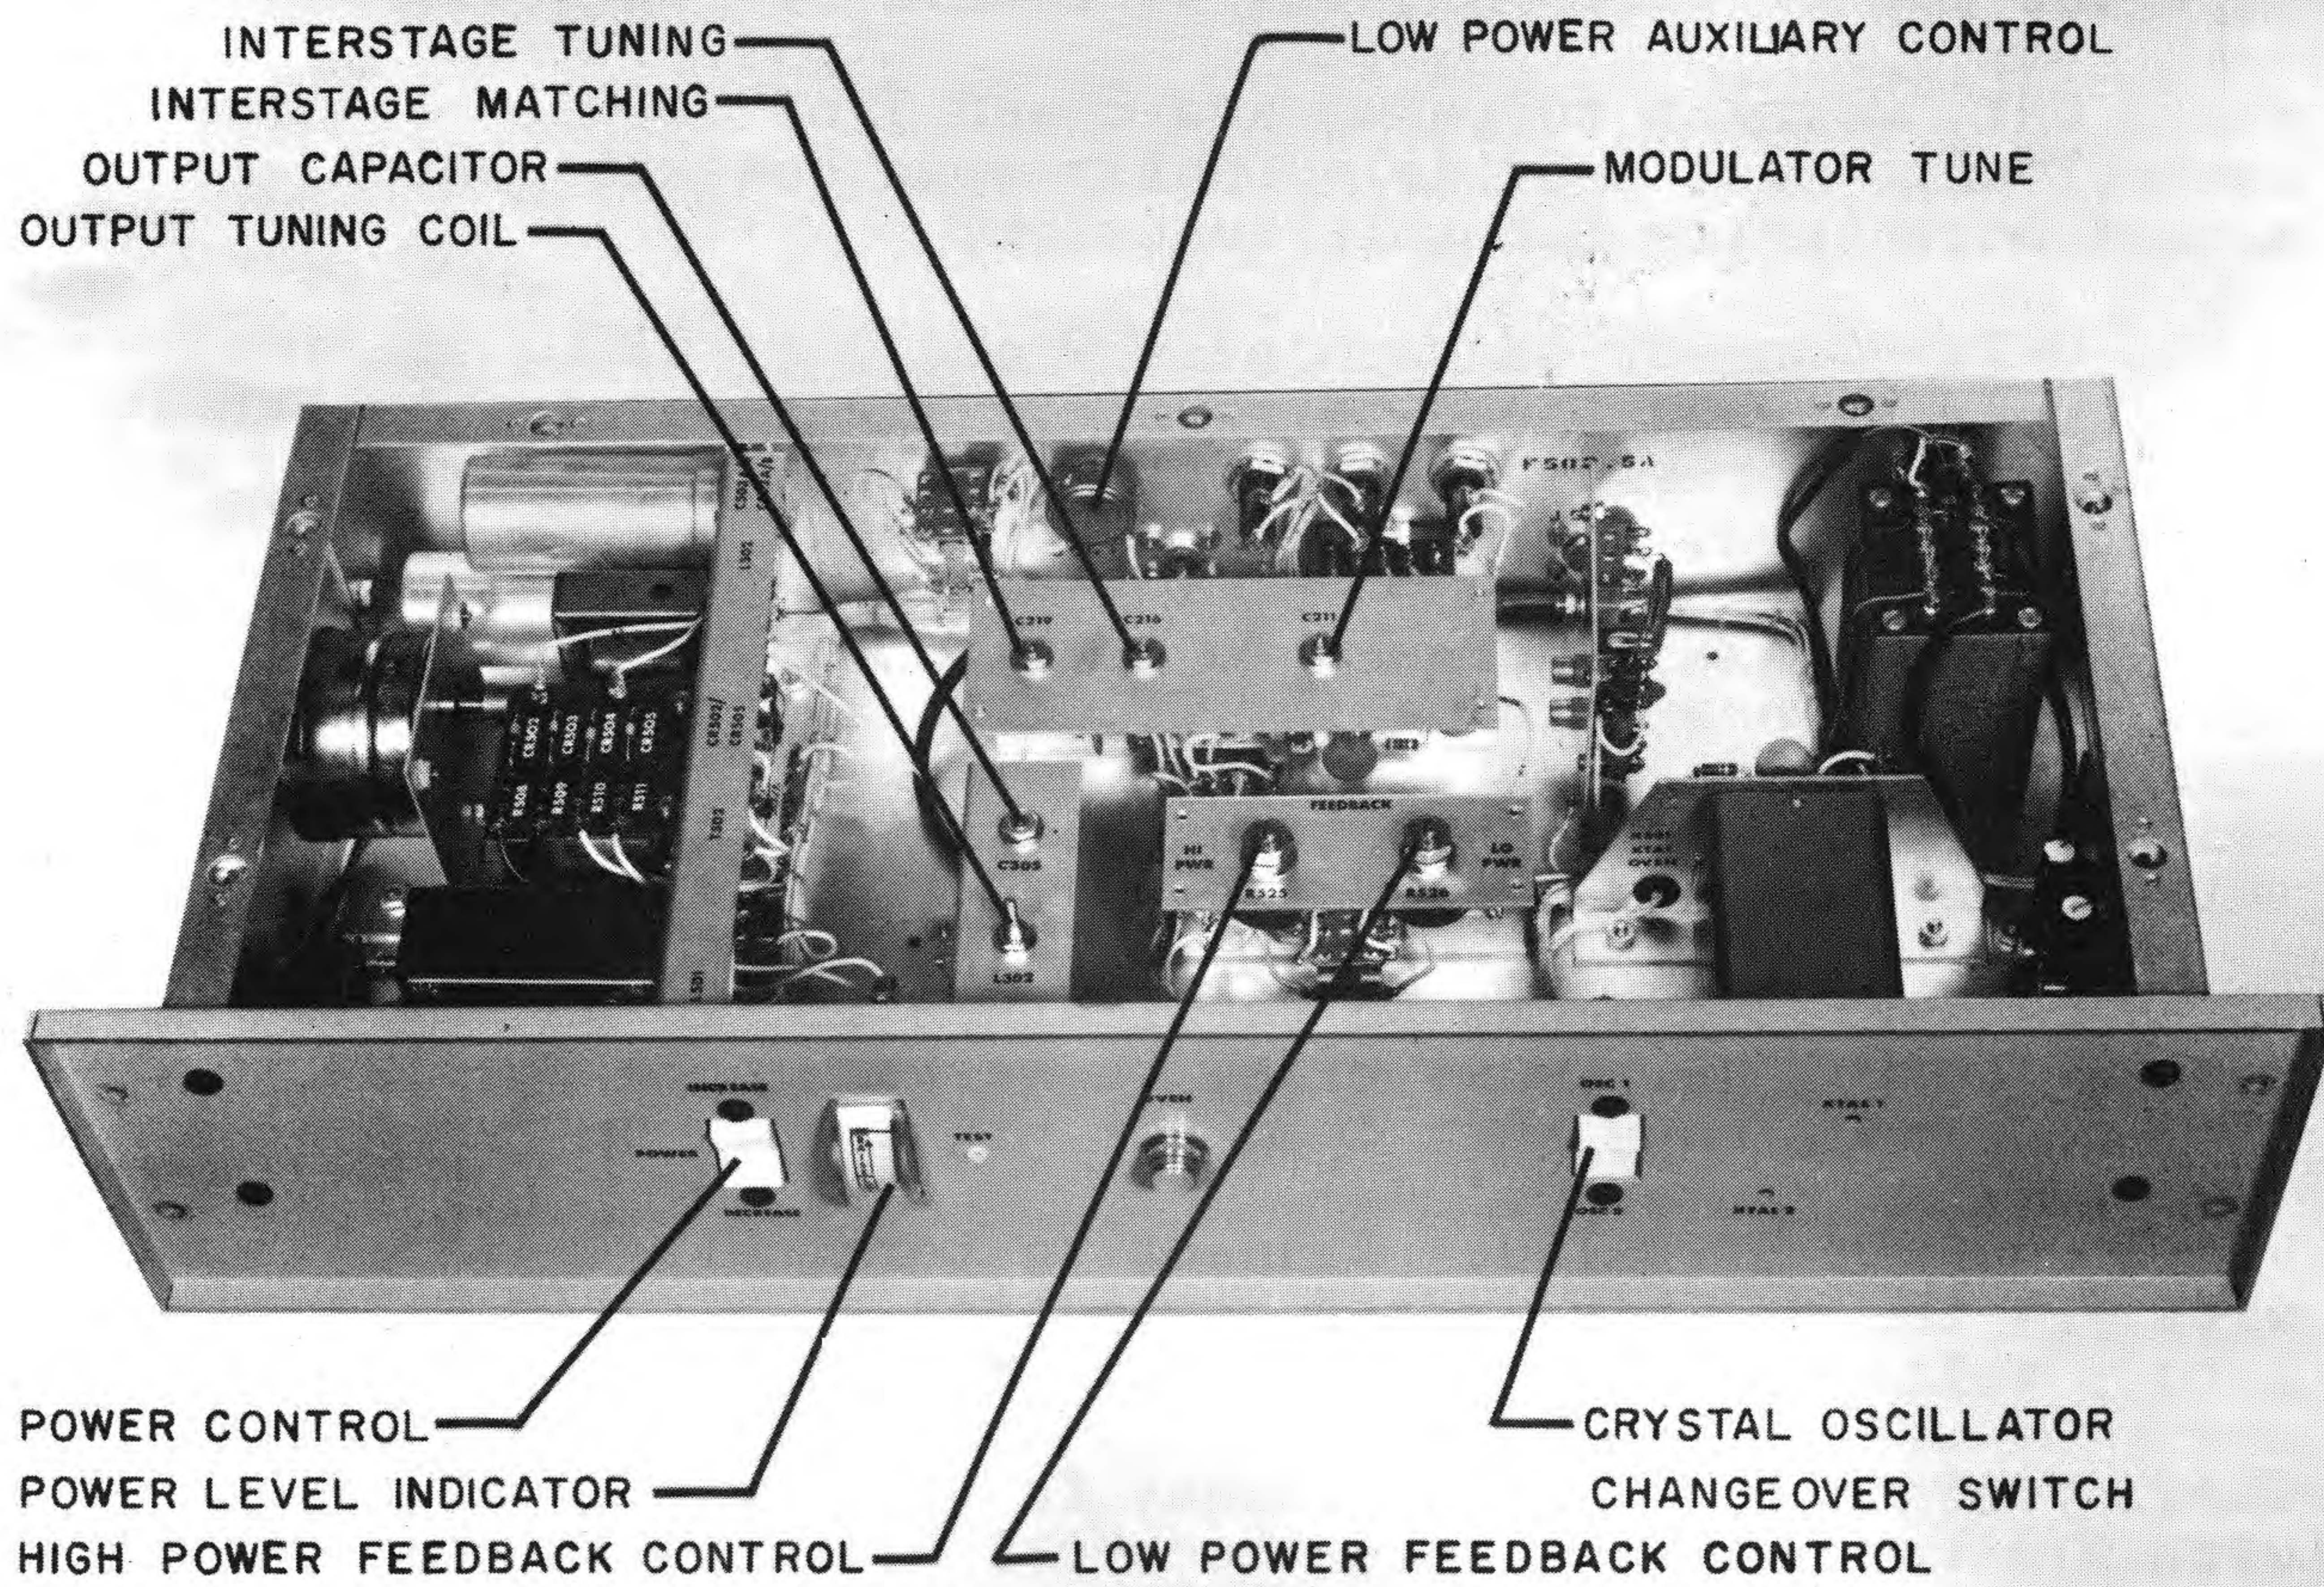

FIGURE 8
2. Turn the HIGH POWER FEEDBACK CONTROL full counterclockwise (left). See Fig. 8, Page 13.
13. **HIGH POWER FEEDBACK CONTROL:** (See Fig. 8, Page 13. This control has been set at the factory for optimum performance and is only adjusted to further reduce the already very low distortion. As feed-back relates to power, this control will have a best position for each individual station. This control never operates fully clockwise. Without test equipment, about 1/8 turn from full counter clockwise end is satisfactory. With test equipment, this procedure may be followed:
2. Repeat Step 13, Page 10, except this time adjust the LOW POWER FEEDBACK CONTROL, Fig. 8, Page 13.
3. Adjust the LOW POWER AUXILIARY CONTROL, Fig. 8, Page 13, until the correct R. F. LINE CURRENT is obtained for the lower power operation. At 250 watts into the inbuilt dummy antenna, this would be about 2.22 amperes.
If insufficient drive to the power amplifier occurs with POWER CONTROL fully raised, proceed as follows, referring to Fig. 8 Page 13.